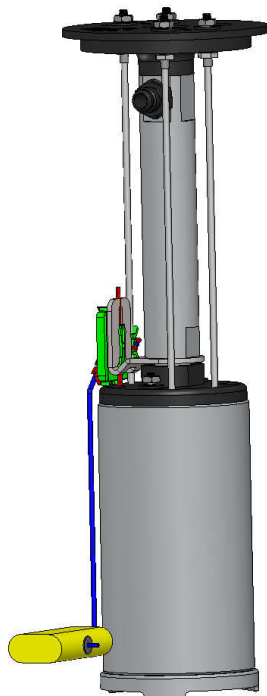

FIGURE 1-11
20. Connect the positive and negative pump wires from the top plate to the pump. Cut the wires closest to the connector on the leveling unit and attach the remaining wires to the ones provided on the Aeromotive top plate (it doesn't matter which wire goes where as it's just a resistance reading). Once the unit is assembled it will look like this. **FIGURE 1-11**